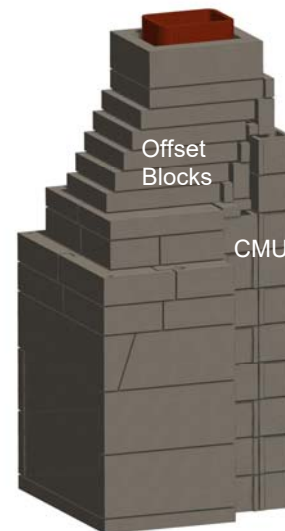

Figure 20. Offset Blocks and CMU Support
C. The chimney is completed by stacking as many flue sections as necessary to reach chimney height. Chimney plumbing can either be straight through the ceiling and through the roof, or if the fireplace is installed on an outside wall, the chimney can be external to the house. When needed offset blocks can be used for the chimney and should be engineered to structurally support the offset with CMU or custom fabricated steel post and or angle iron capable of supporting the weight and height of the chimney. Never exceed more than a 30 degree angle when offsetting a chimney. See Figure 20.